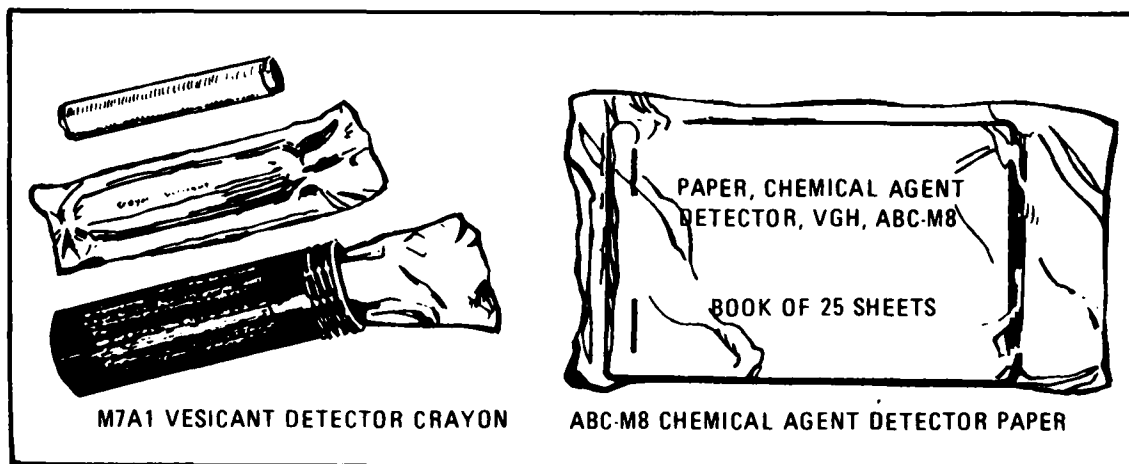

Figure 5.
5. Chemical agent detector materials. The following items are components of some chemical agent detector kits and, in addition, may be issued to individuals or units (fig. 5). Although these materials will detect liquid chemical agents, they will also react with some solvents, as indicated below.